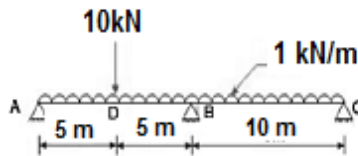

Figure-1
- (c) Analyse continuous beam ABC as shown in **Figure-1** using stiffness member approach and draw bending moment and shear force diagram. Assume EI to be constant for all members. **07**